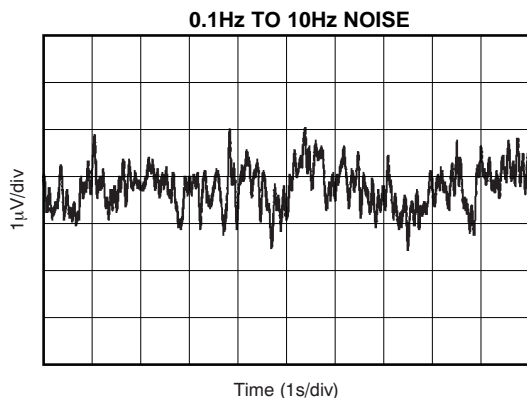

Figure 13.
0.1Hz to 10Hz Noise	<a href="#">Figure 13</a>